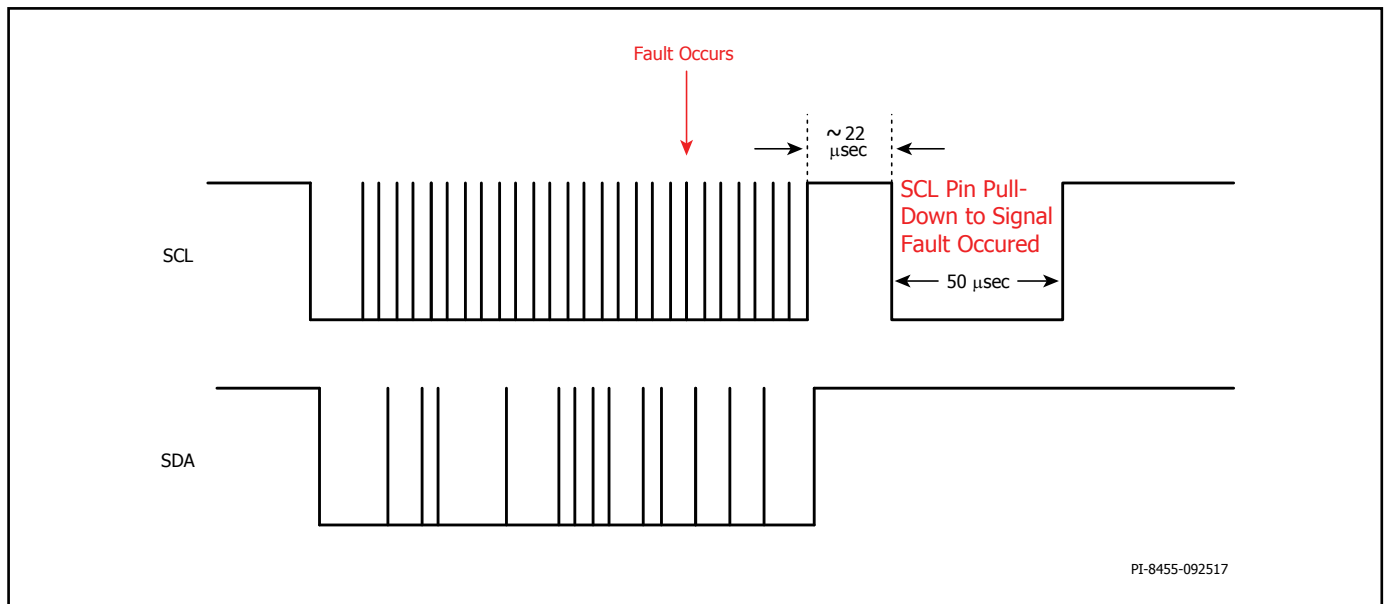

Figure 20. Interrupt Mask During Active I²C Transaction.
- When the SCL pin is busy (active I²C transaction) (see Figure 20), the fault interrupt will wait for the I²C transaction to be completed, wait ~22 μ sec and then pull down the SCL line for 50 μ sec (minimum) then releases it back to HI State.